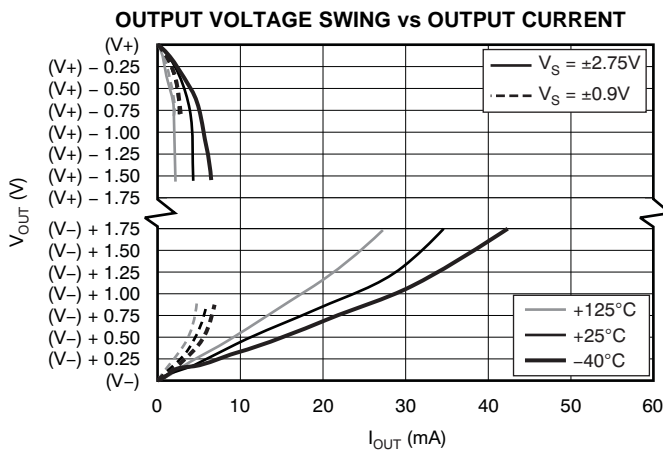

Figure 29.
(4) Does not include effects of external resistor R_G .
(5) See Typical Characteristics curve, *Output Voltage Swing vs Output Current* (Figure 29).
The INA333 can be used on single power supplies of +1.8V to +5.5V. Figure 35 illustrates a basic single-supply circuit. The output REF terminal is connected to mid-supply. Zero differential input voltage demands an output voltage of mid-supply. Actual output voltage swing is limited to approximately 50mV above ground, when the load is referred to ground as shown. The typical characteristic curve *Output Voltage Swing vs Output Current* (Figure 29) shows how the output voltage swing varies with output current.